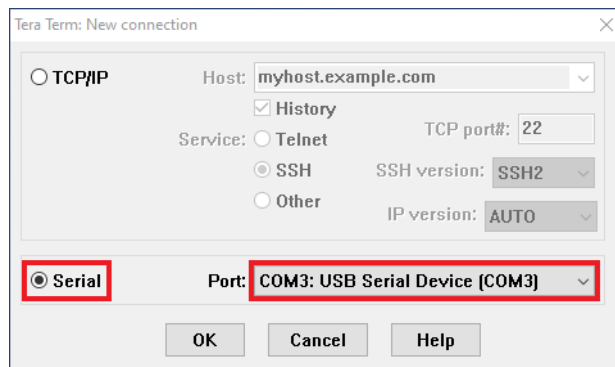

Figure 9. Tera Term New Connection Window
A terminal emulator program is needed for running the user interface (UI). A useful option is Tera Term, which can be downloaded from the Tera Term Home Page. To initiate a terminal session, a new connection must be opened (Figure 9). The serial connection settings for the terminal software are given in Table 3. The PC user must have read/write access permission for the USB port.